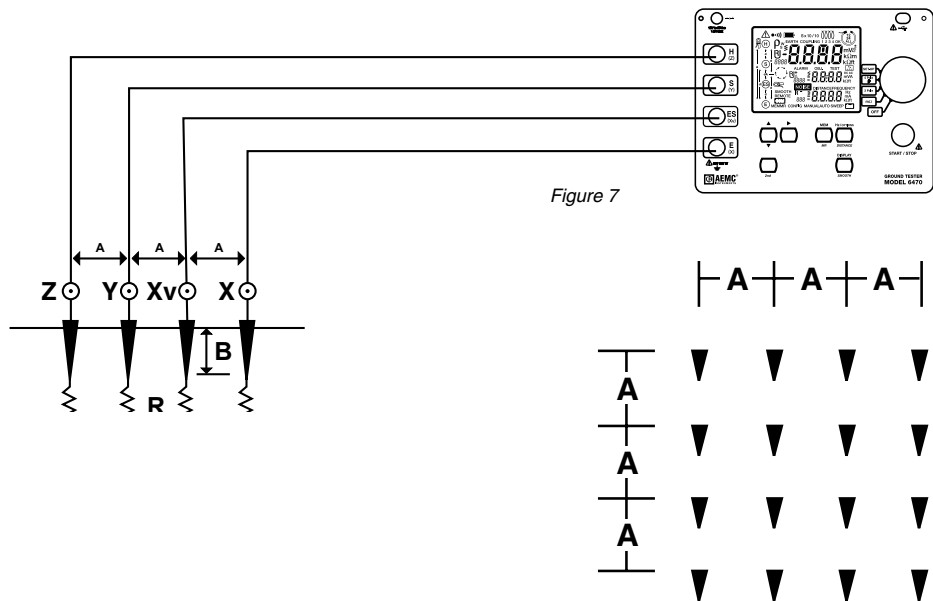

Figure 7
Resistivity measurements are of two types; the 2-Point and the 4-Point method. The **2-Point method** is simply the resistance measured between two points. For most applications the most accurate is the **4-Point method** which is used in the Ground Tester Models 4610, 4620, 4630 or 6470. The 4-Point method (Figures 7 and 8), as the name implies, requires the insertion of four equally spaced and in-line electrodes into the test area. A known current from a constant current generator is passed between the outer electrodes. The potential drop (a function of the resistance) is then measured across the two inner electrodes. The Models 4610, 4620, 4630 and 6470 are calibrated to read directly in ohms.
- Connect all four auxiliary rods (Figure 7)